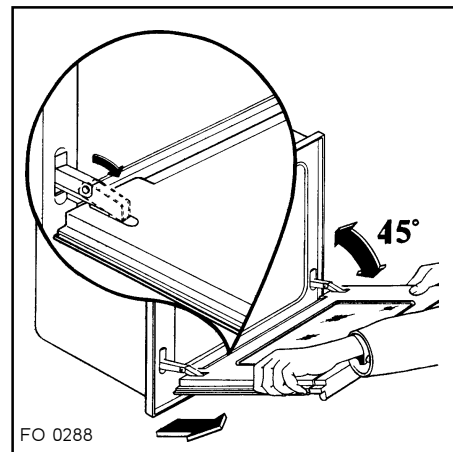

Fig. 10 FO 0288
- b) find the hinges linking the door to the oven (fig. 10);
- c) unlock and turn the small levers located on the two hinges (fig. 10);
- e) gently pull the oven door off its site (fig. 10);